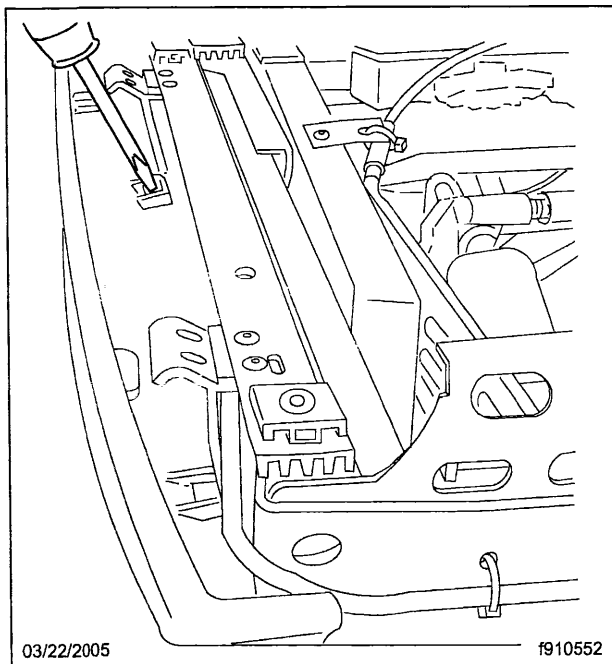

**Fig. 5, Push the Locked Shields Apart**
7. At the front of the seat where the side shield meets the front shield, locate the place where the two shields lock together. Using a narrow screwdriver, push the locked shields apart, being careful not to damage them. See **Fig. 5**.